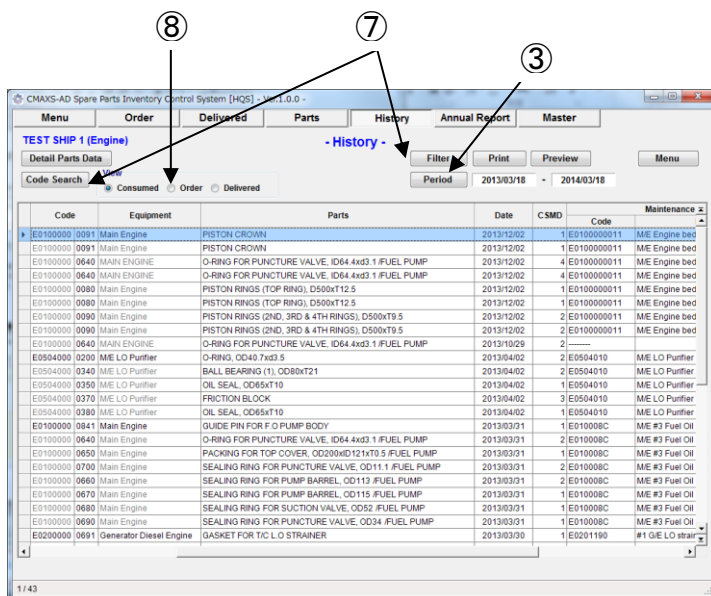

Fig.10-2 History[Consumed Parts] Screen
(2) "History (Consumed Parts) Screen "(Fig.10-2) is displayed.